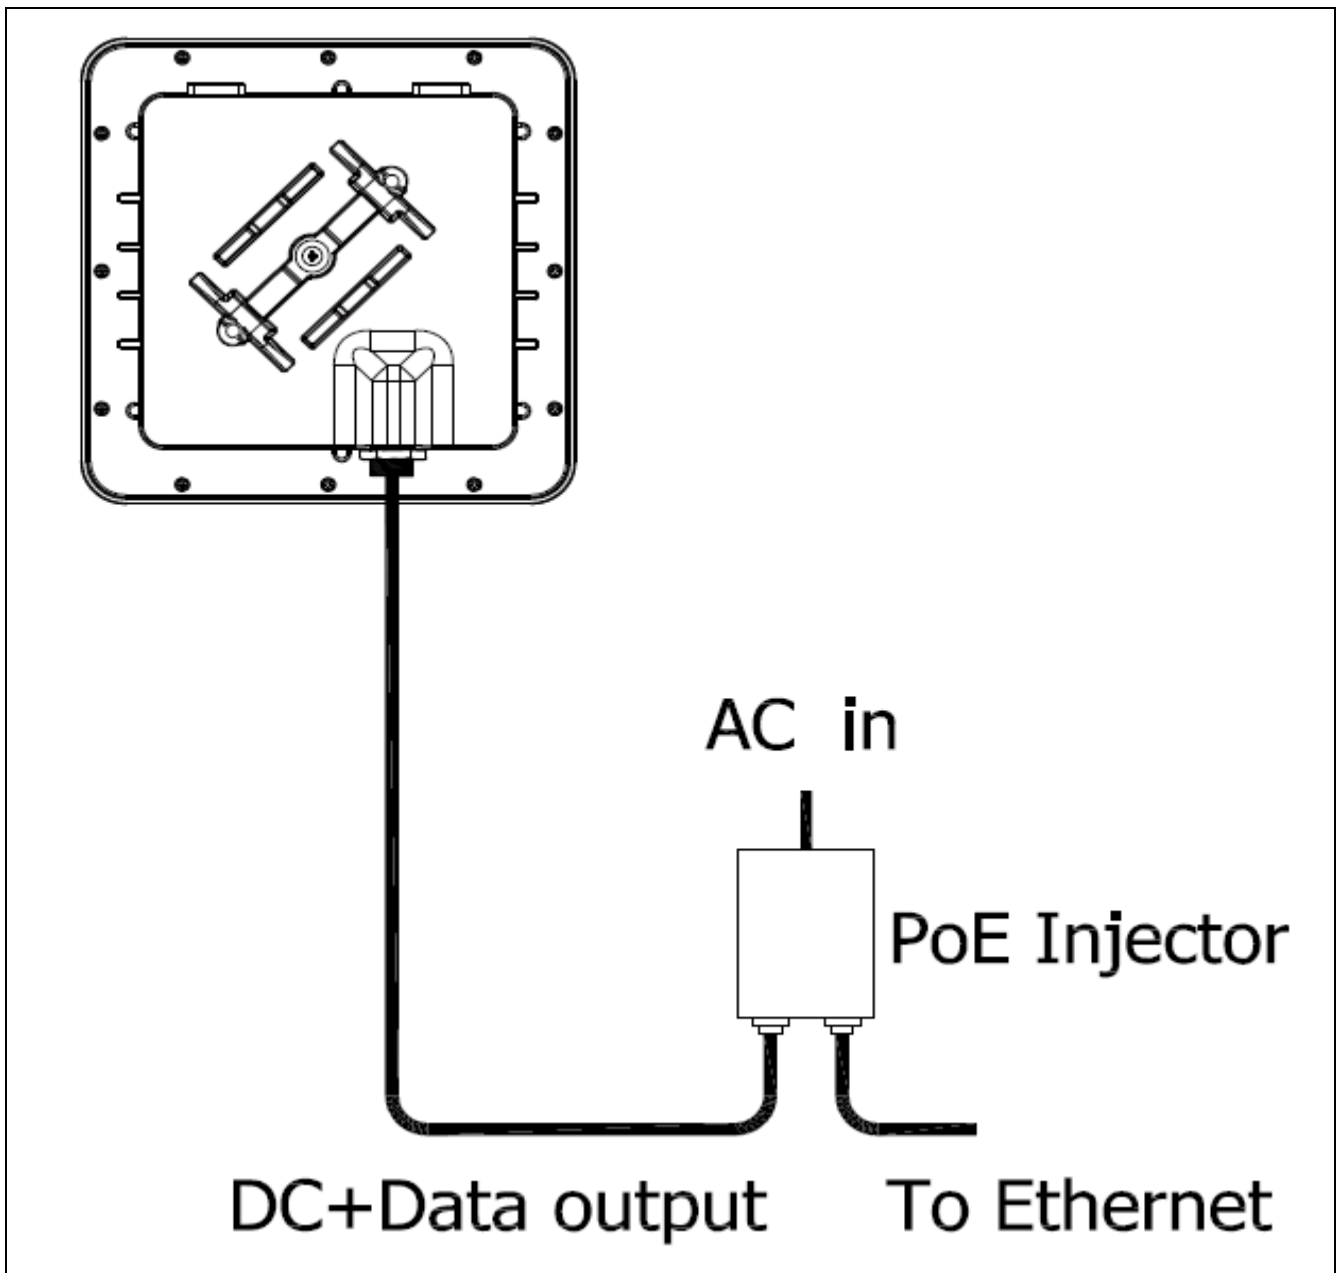

Figure 4: POE Connection Setup
3. Install weather-proof CAT-5e cable between Ethernet port of CPE and “DC+Data output” port of POE injector as shown in Figure 4.